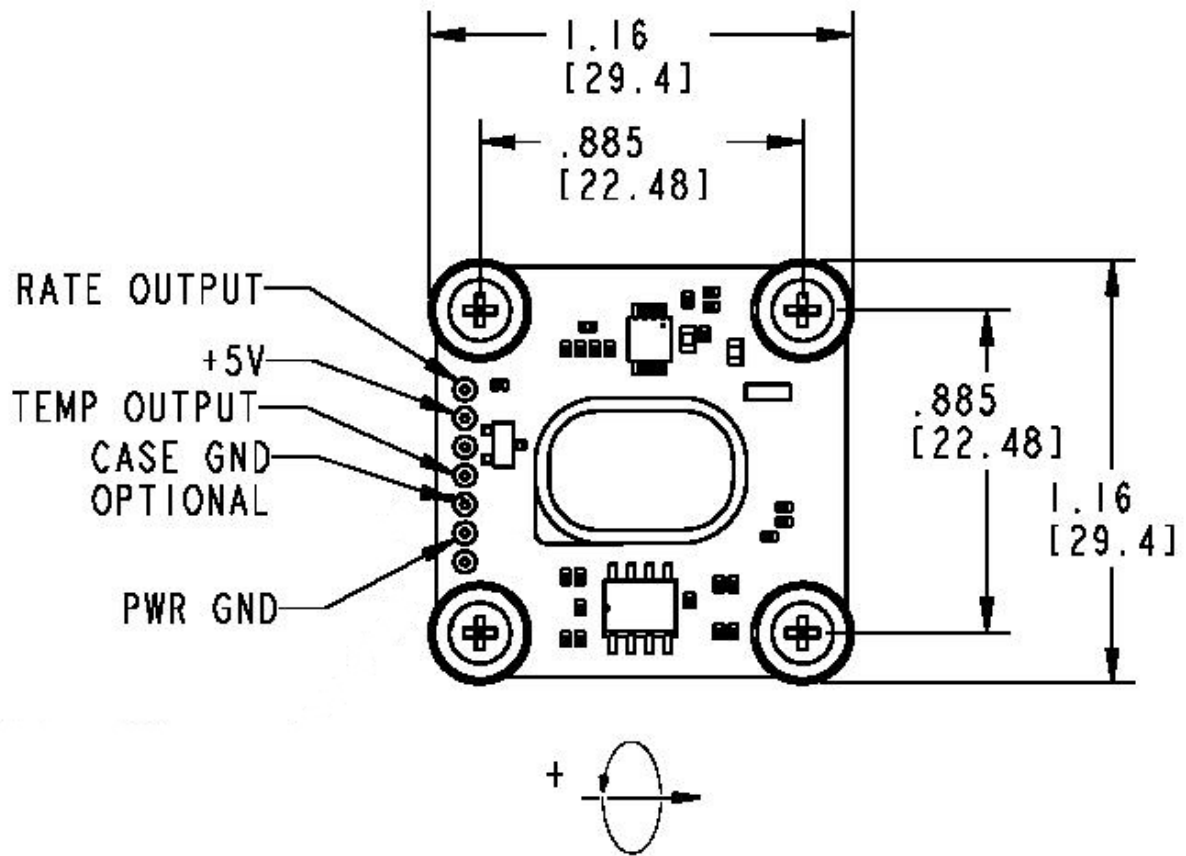
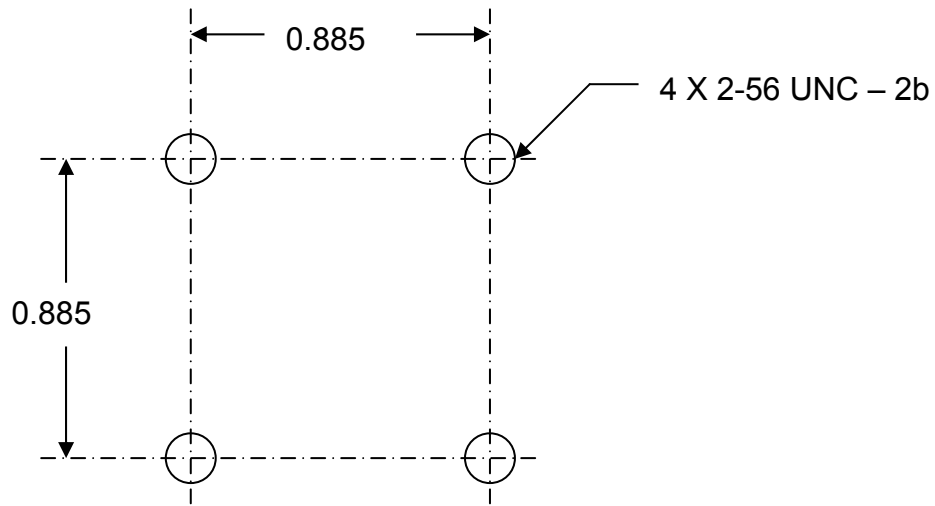
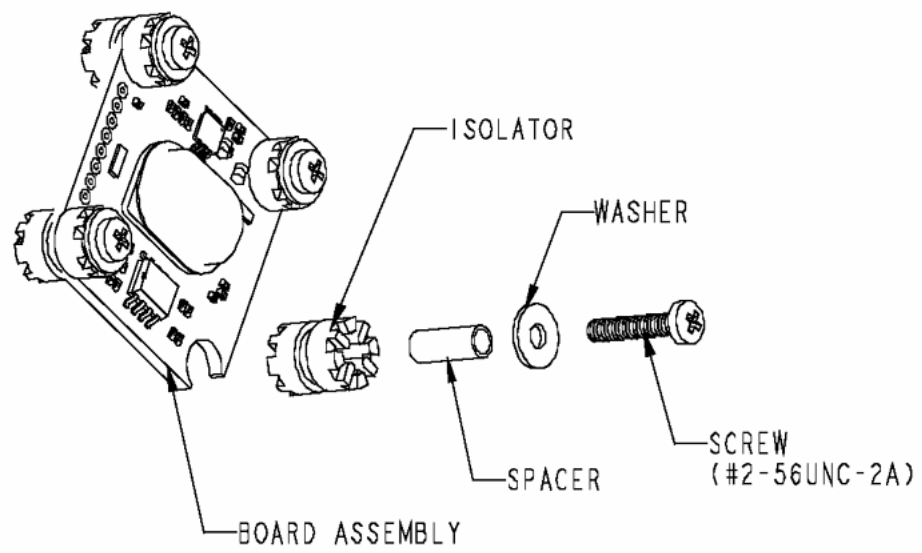

Figure 1A. LCG50 Envelope Drawing
Figure 2A. LCG50 Tap and Drill Pattern
Figure 3. LCG50 Exploded Assembly
3. Drill and tap 4 mounting holes in accordance with Figure 2A. Use the supplied kit to mount the LCG50, see Table 1. An exploded assembly is shown in Figure 3.
4. Mount the LCG50 using the mounting hardware listed in Table 1. This hardware is included in the LCG50 mounting kit, P/N 260885, supplied with the LCG50. Refer to Figure 3 for location of mounting holes. Ensure that the washers lay flat with no interference from the side of the case. Note that the sensitive axis orientation is parallel to the mounting surface, as shown in Figure 1A.
6. If through hole mounting is preferred, a hex nut and a longer screw will be required. The required mounting hardware is listed in Table 2, and is not supplied with the LCG50. Drill four through holes, 0.101 Inch Diameter with the pattern shown in Figure 2A.